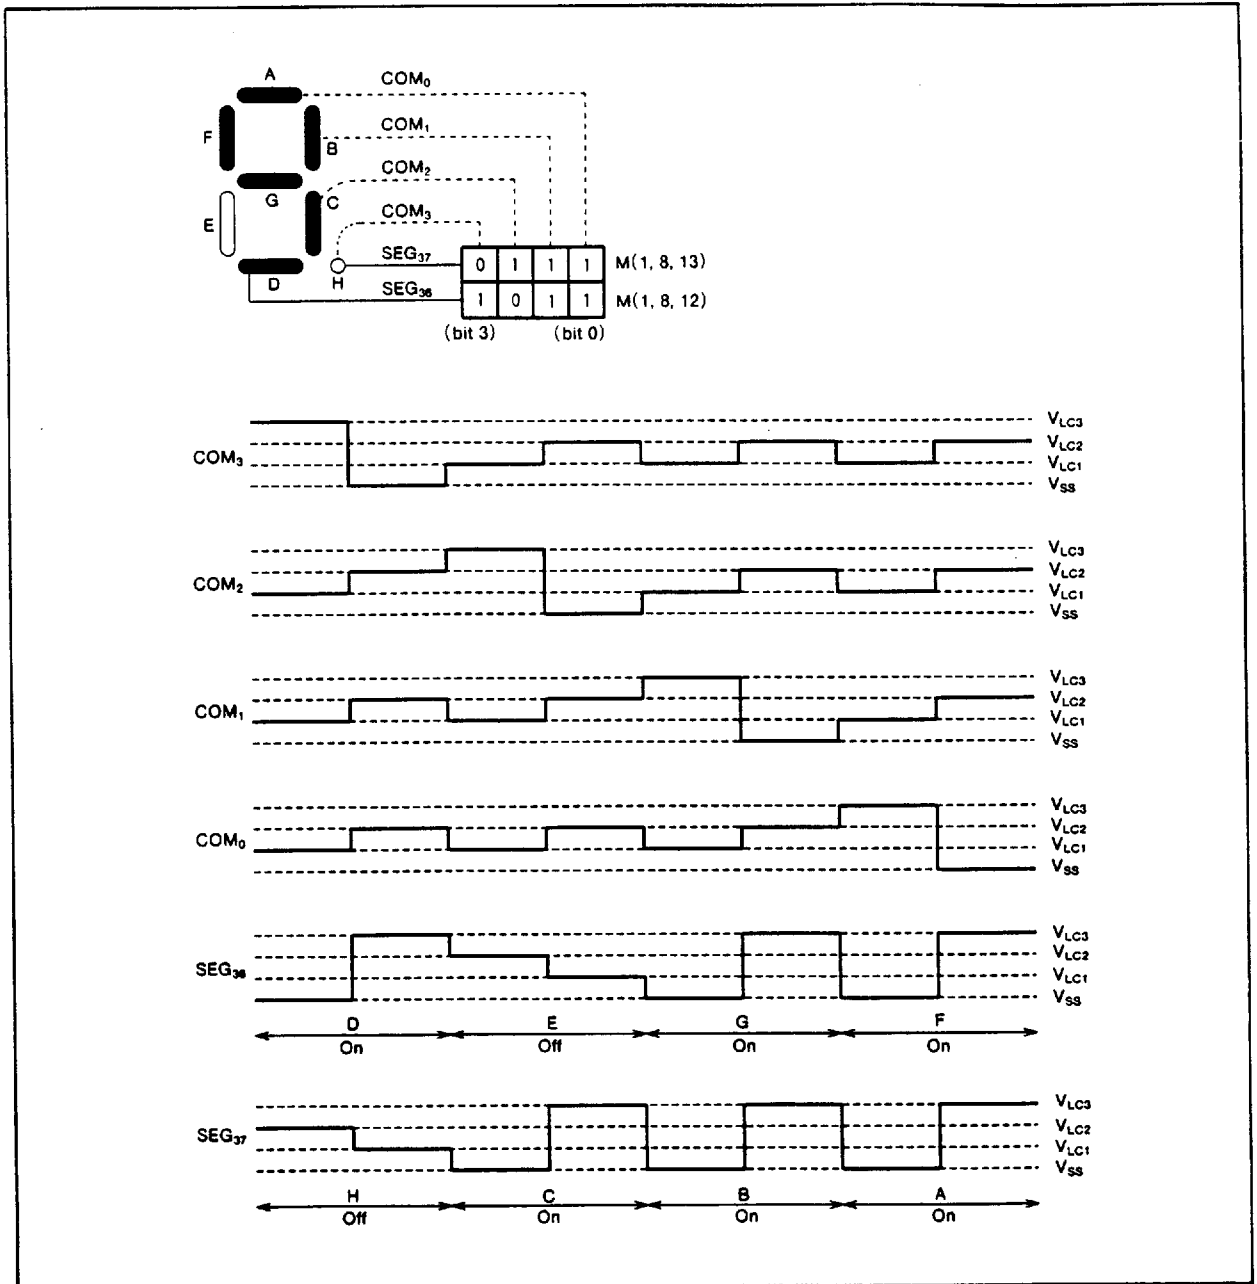

Fig. 38 Display pattern example and drive waveform example
4. Write $(1011)_2$ and $(0111)_2$ in RAM addresses M (1, 8, 12) and M (1, 8, 13) as shown in Fig. 38.